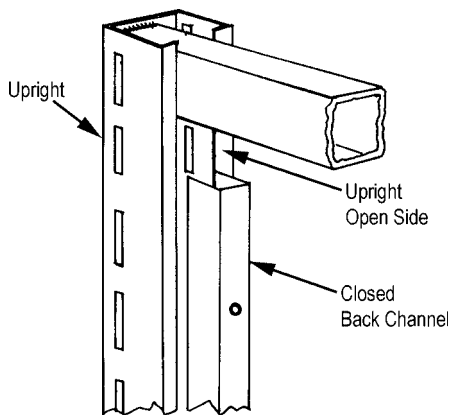

FIGURE 20A
1. Snap a closed back channel inside the open side of each upright of the frame. See Figure 20A.